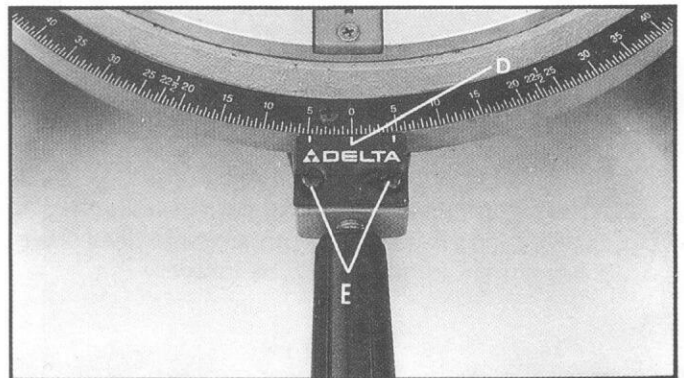

Fig. 24
6. When you are certain the cut is at 90 degrees, adjust the pointer so that the center line (D) Fig. 24, points to the 0 mark on the scale, by loosening the two screws (E).